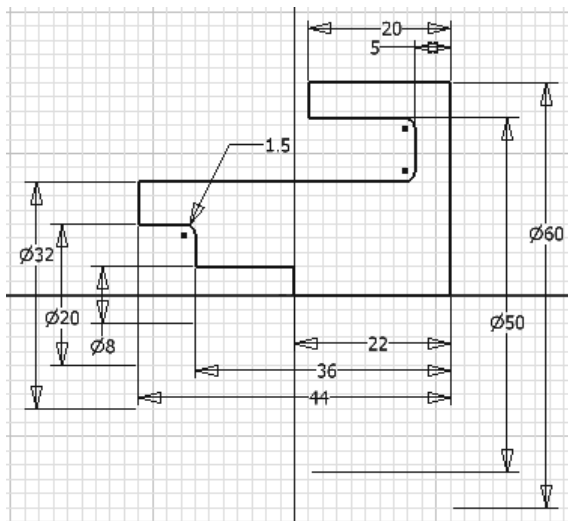

Figure 3-52 Fully dimensioned sketch after adding fillets
2. Similarly, select lines 5 and 6 as well as lines 4 and 5 to add fillets between these lines. Exit the **2D Fillet** dialog box. The final sketch, after adding fillets, is shown in Figure 3-52.